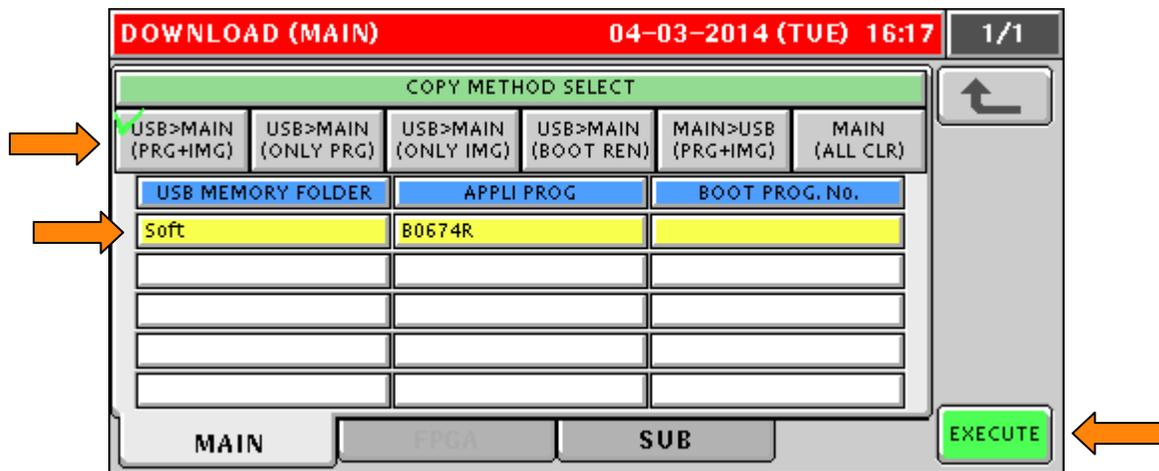

Figure 1.6. Select **USB>MAIN (PRG+IMG)** and the Firmware File to Install
15. Press the **USB>MAIN (PRG+IMG)** button. See Figure 1.6.
16. Press the firmware version to be installed. It will be highlighted in yellow. See Figure 1.6.